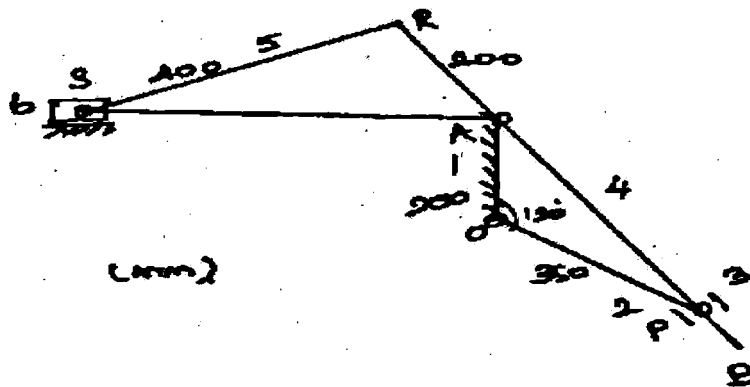

Fig. 5
- (b) (i) Fig.5 shows the configuration of a whit worth quick return mechanism. The lengths of the fixed link OA and the crank OP are 200 mm and 300mm respectively. Other lengths are AR=200 mm and RS=400 mm. Find the velocity of the ram using instantaneous centre method when the crank makes a angle of 120° with the fixed link and rotates at 10 rad/s.